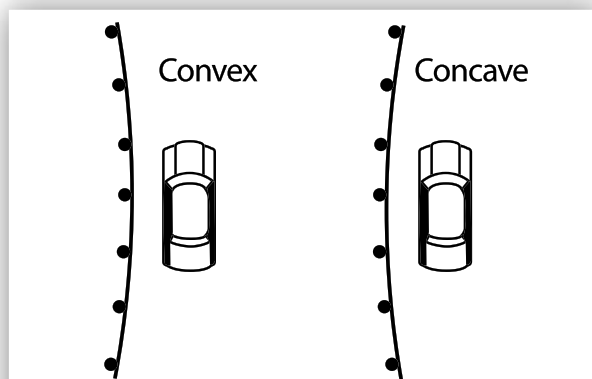

Figure 12: Curvature Orientation
5. Determine the curvature orientation from Figure 12.